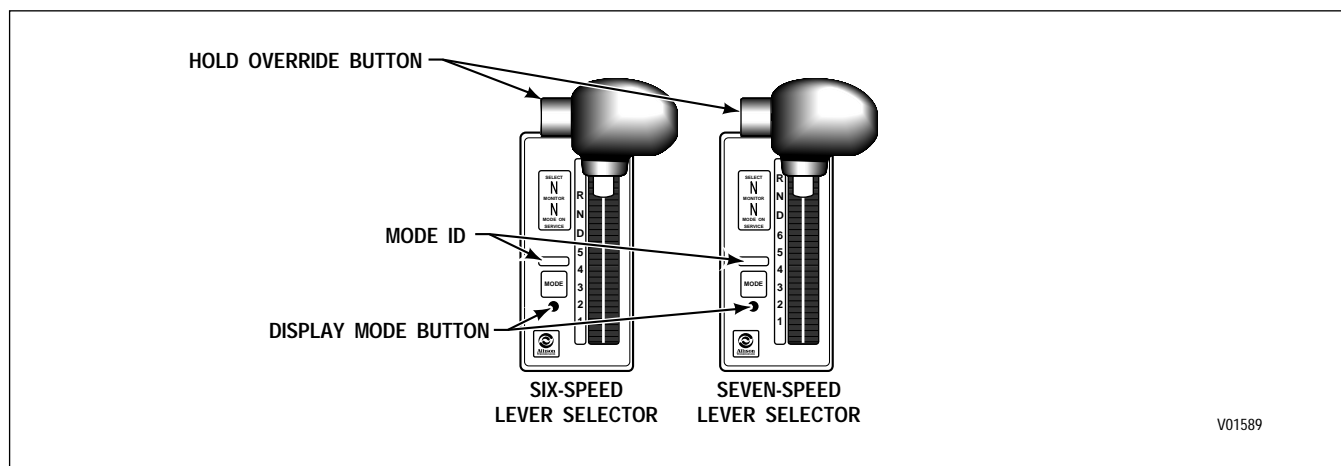

Figure 1-6. Six-Speed And Seven-Speed Lever Shift Selectors
B. Lever Shift Selector (Figure 1-6)